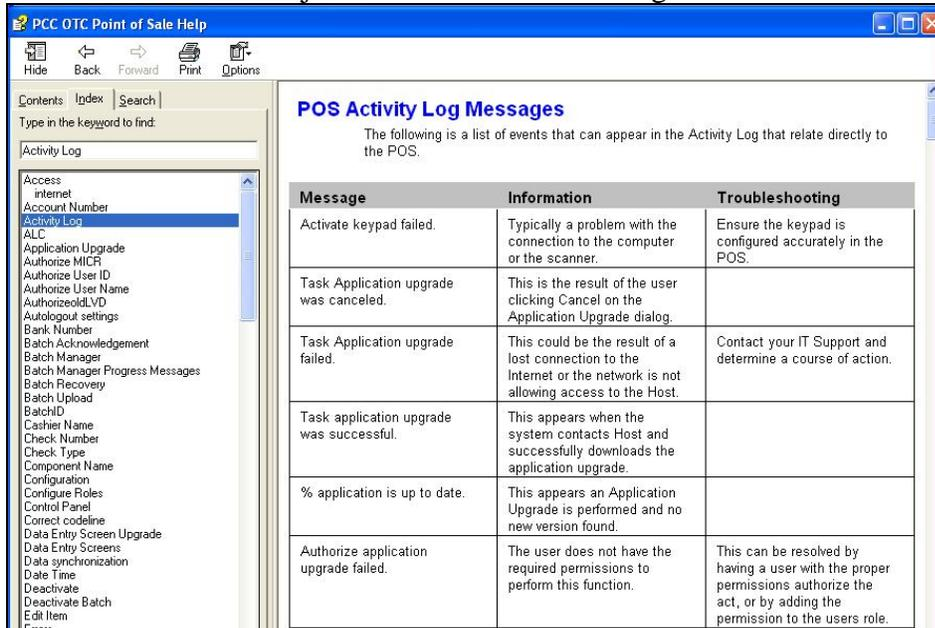

Figure 2.34
- Index – displays the index of items on the left side of the screen. The user can click to highlight an item on the left then click the ‘Display’ button at the bottom of the window to display the contents of that subject in the window on the right side of the screen. (Figure 2.34)